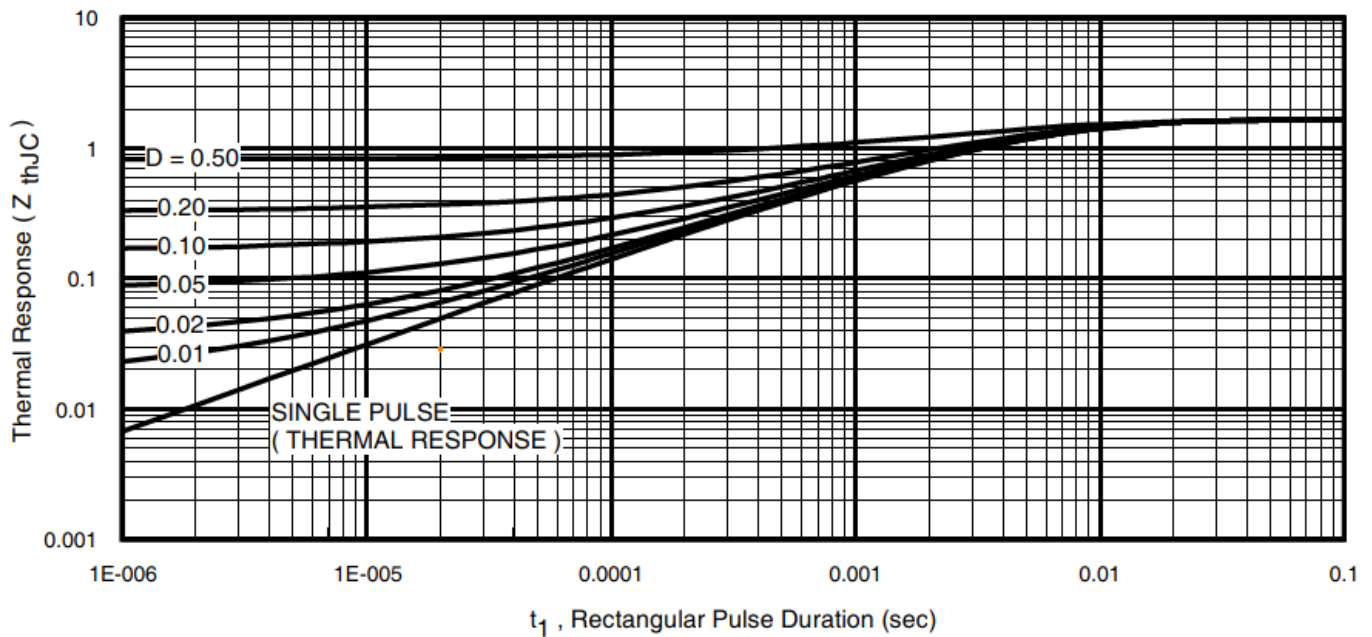
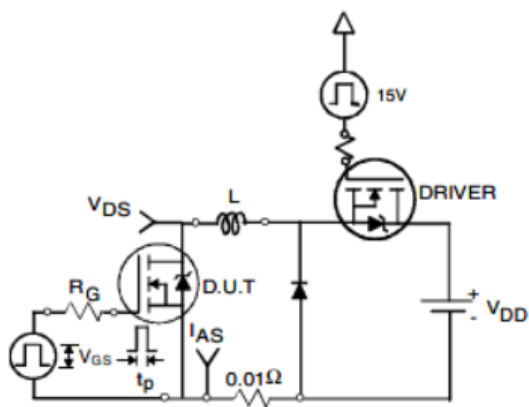

Fig 11. Maximum Effective Transient Thermal Impedance, Junction-to-Case
Fig. 12a. Unclamped Inductive Test Circuit
- ① Repetitive rating; pulse width limited by max. junction temperature. (See fig. 11).
- ② Starting $T_J = 25^\circ\text{C}$, $L = 0.46\text{mH}$, $R_G = 25\Omega$, $I_{AS} = 20A$, $V_{GS} = 10V$. Part not recommended for use above this value.
- ③ Pulse width $\leq 1.0\text{ms}$; duty cycle $\leq 2\%$.
- ④ $C_{oss\text{ eff.}}$ is a fixed capacitance that gives the same charging time as C_{oss} while V_{DS} is rising from 0 to 80% V_{DSS} .
- ⑤ Limited by T_{Jmax} , see Fig.12a, 12b, 15, 16 for typical repetitive avalanche performance.
- ⑥ This value determined from sample failure population. 100% tested to this value in production.
- ⑦ This is only applied to -TO-220AB package.
- ⑧ This is applied to D2 Pak, when mounted on 1" square PCB (FR-4 or G-10 Material). For recommended footprint and soldering techniques refer to application note# AN-994.